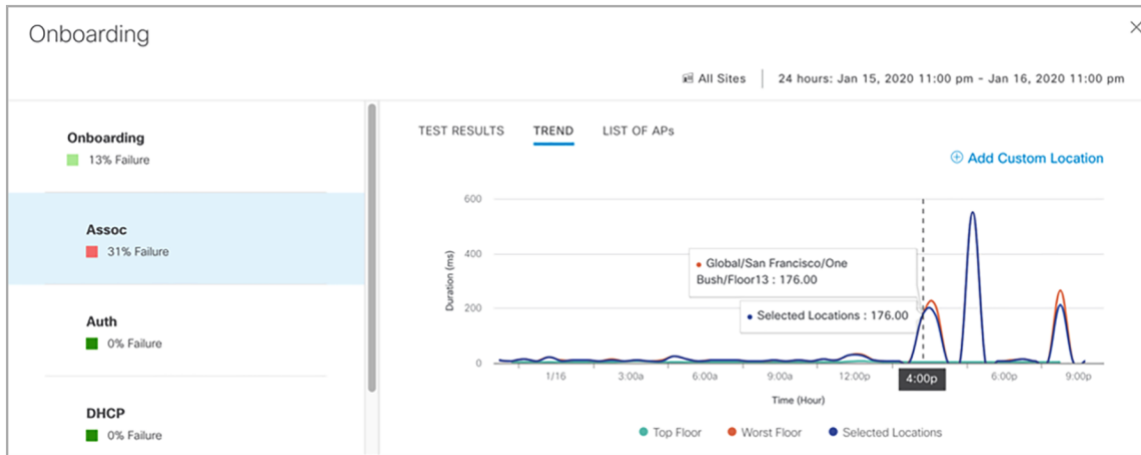

Figure 87.
- p. Click the Trend button within any of the sensor test drill-down views to see the test data for the past 24 hours (**Figure 87.**)
- q. You can add additional locations to compare by clicking the Add Custom Location button when displaying a trend chart (**Figure 87.**)